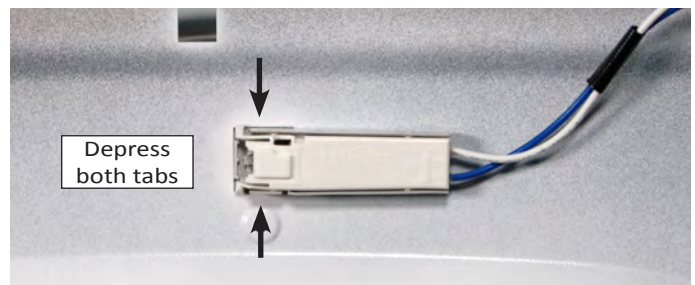

Figure 4 - Remove door switch.
9. Locate the door switch on the backside of the front panel, just above the door opening. Depress both tabs and push switch through the opening. (See Figure 4.)